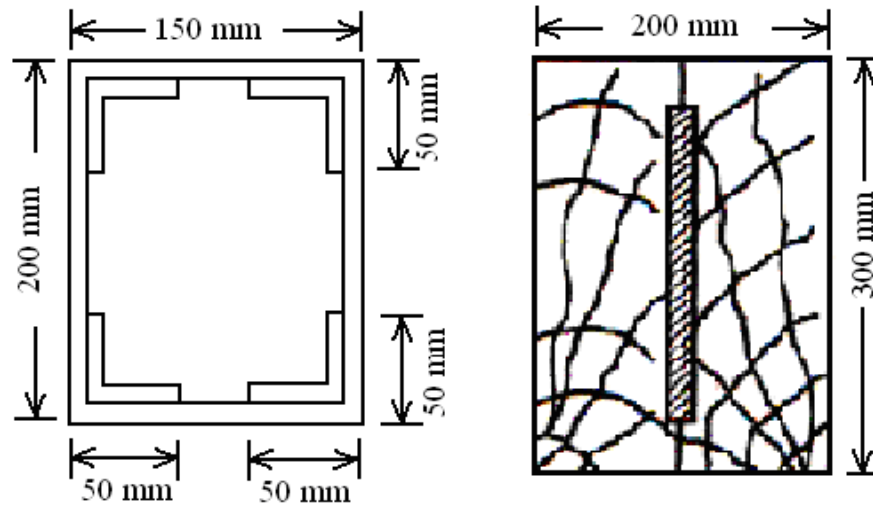

Figure 2:
5. Develop the shear stress distribution diagrams for the sections shown for the following figure 2 when subjected to a transverse S.F. of 200.0 kN. What are the maximum shear stresses? [16]